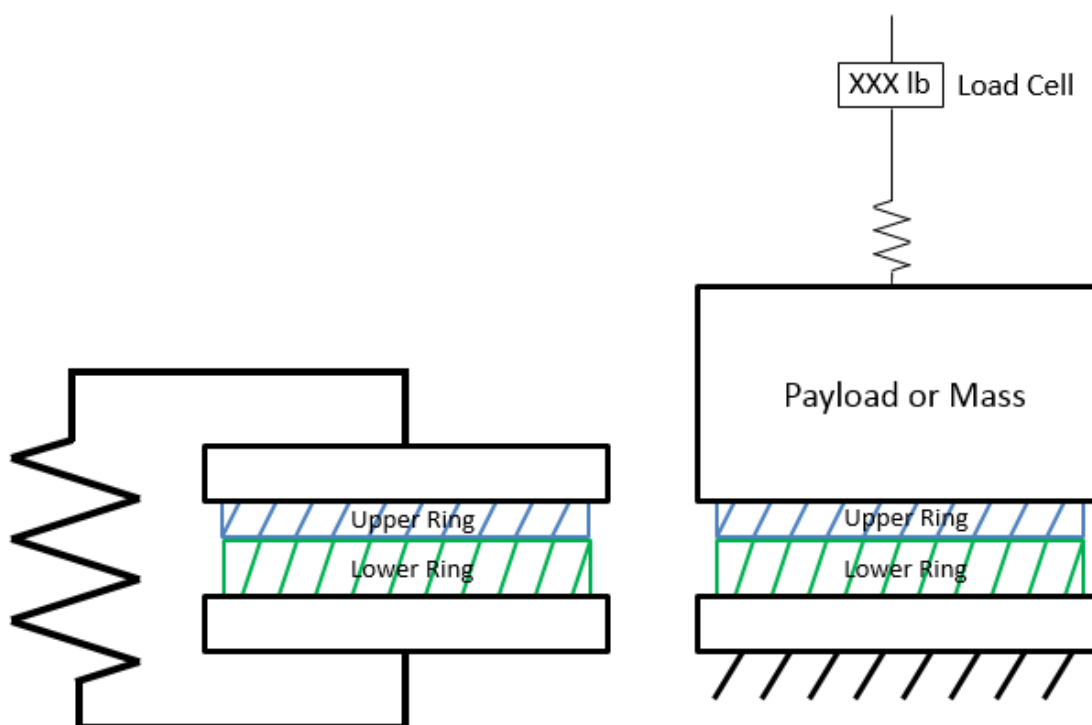

Figure 8-5: Verifying compliance in Lightband compression system. Two common methods shown.
8.1.8	<p>Verify the system being used to compress the Lightband has a total axial (X_{LB}) stiffness less than 2,000 lb/in (the entire loop from the Upper Ring around to the Lower Ring). This applies to a crane system offloading a mass, a compression clamp fixture, etc. An isolation system (if attached to the Lightband) can be included in this stiffness calculation. See Figure 8-5.</p> <p>This compliance ensures the Lightband is able to self-align while Stowing. If the system is overly stiff, the Lightband motors will not be able to impart the necessary power required to quickly move the Upper Ring into alignment.</p>